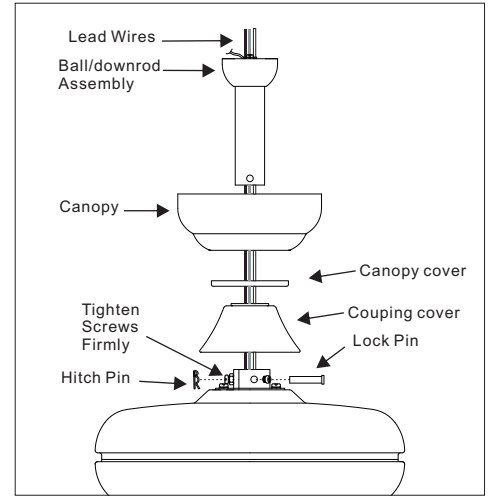

Figure 9
5. Slip coupling cover, canopy cover and canopy onto downrod. (Figure 9) Carefully reinstall hanger ball onto downrod, make sure that cross pin is in correct position, set screws are tighten and wires are not twisted.